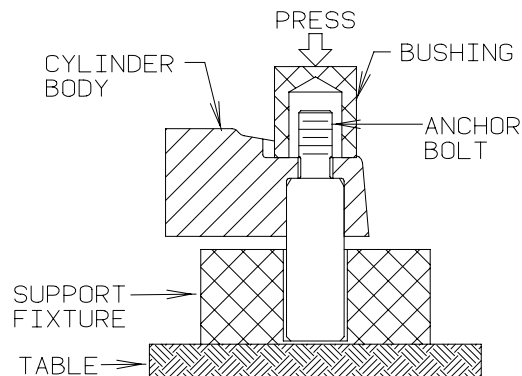

Figure 305 - Anchor Bolt Installation
- (b) If anchor bolts were removed, install anchor bolts using an arbor press and a holding fixture. Refer to Figure 305. Insure that bolt is **perpendicular** to the cylinder and **parallel** to one another. Install washers and nuts. Dry torque nuts to 90 inch-pounds (7.9 N·m). The torque to overcome the locking feature of the nut must be added to the above torque level to obtain the true torque.